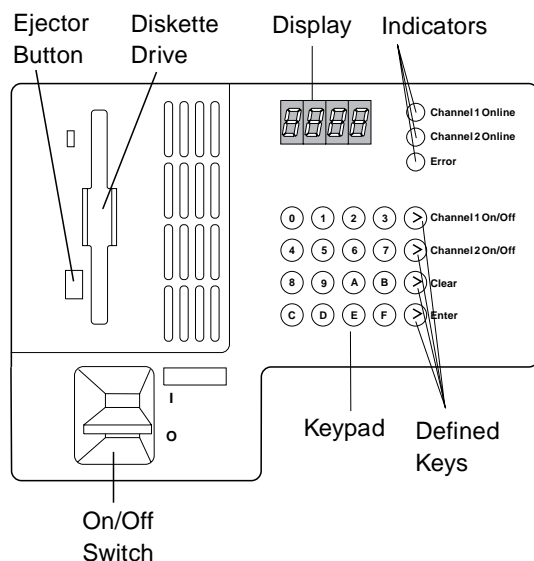

Figure 3. Processor Panel.
- ___ 2. Switch the power **ON (I)** (See Figure 3 on page 5).